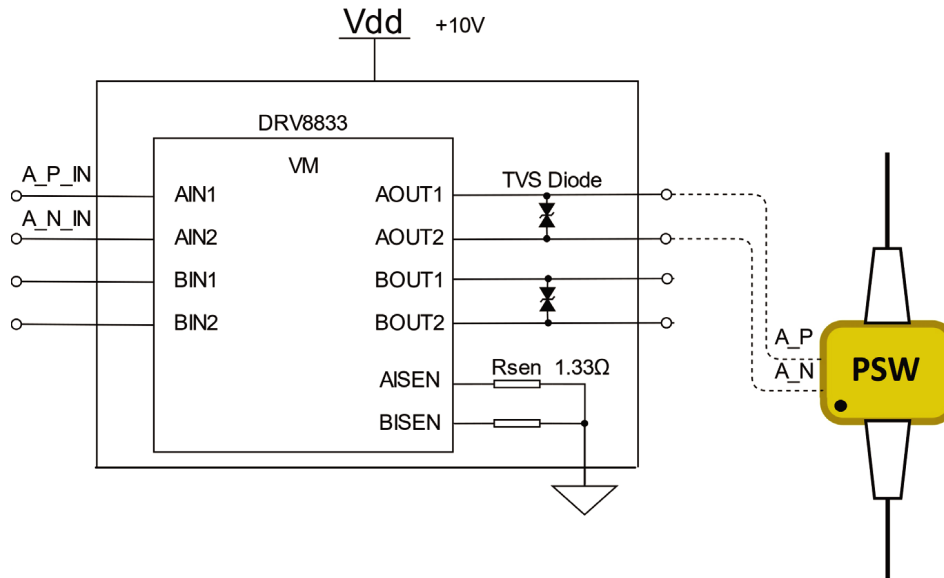

Figure 12 PSW-003 driver circuit example using a DRV8833 chip
Most H-bridge driving ICs are suitable to drive the PSW-003. In particular, well-defined motor driver ICs with current chopping functions such as the Texas Instruments (TI) DRV8833 are good choices. Figure 12 demonstrates a driving solution using a DRV8833 chip to drive a PSW-003 with the current limitation function or protection.